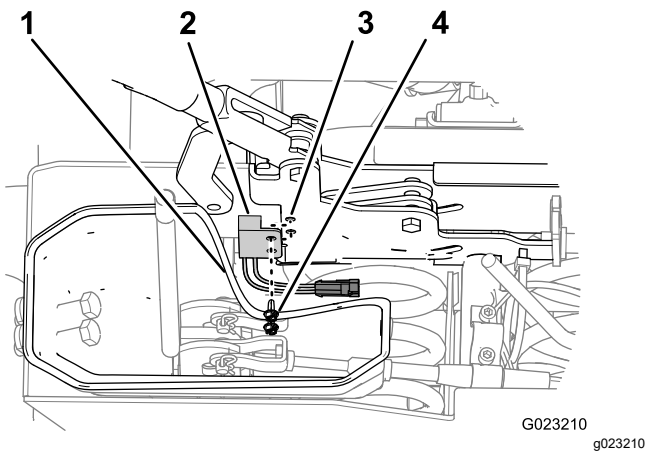

Figure 13
1. Move the lower-dust boot for the gear selector away from the left side of the parking brake assembly (Figure 13).
2. Align the holes in the parking-brake switch with the holes in the left side of the parking brake (Figure 13).
3. Secure the switch to the brake with the 2 hex-washer head screws (Figure 13).